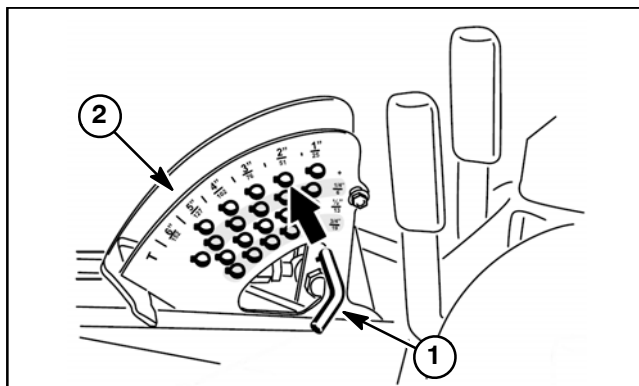

Figure 22
2. Note location of HOC pin in HOC bracket for assembly purposes (Fig. 22). Remove HOC pin from HOC bracket.
C. If cap screw (item 20) was removed from chain (item 22), insert screw into upper link of chain and thread flange nut (item 23) onto screw with flange away from link. Torque flange nut to **50 ft-lb (67 N-m)**. When fastening chain to front lift arm, torque second flange nut to **50 ft-lb (67 N-m)**. When installing chain to rear lift arm, torque cap screw to **50 ft-lb (67 N-m)**.
4. Start engine and fully raise cutting deck. Stop engine and remove key from the ignition switch. Install HOC pin into HOC bracket to allow desired height-of-cut (Fig. 22).